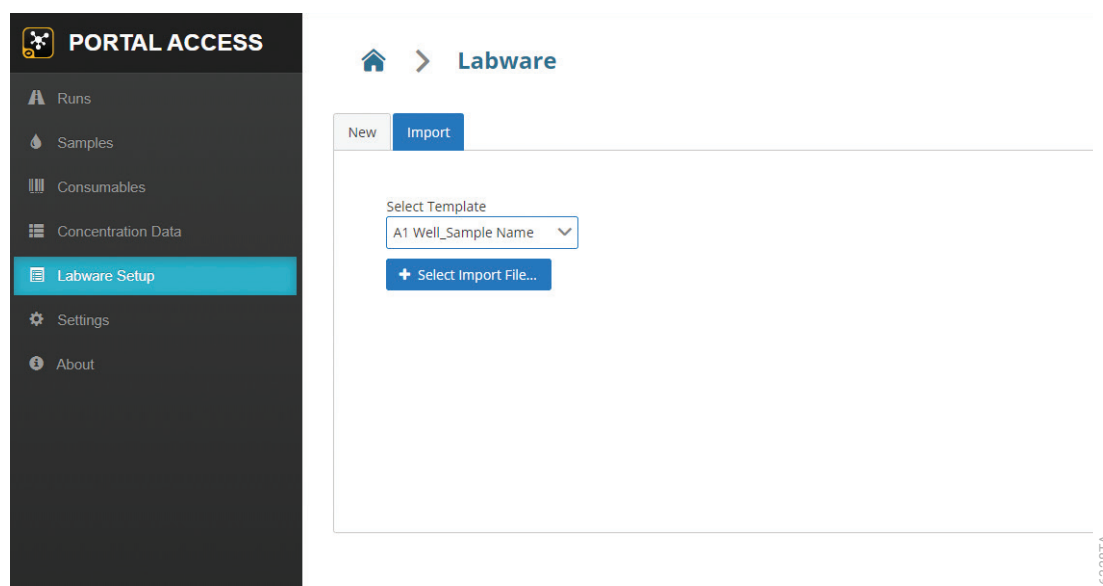

Figure 32. 'Labware' screen. Use the functions on the 'Labware' screen to import a file that will define the samples present in a plate.
Plate maps are used to map the sample identifiers associated with specific wells on a plate and the labware bar code for the plate itself. Select the **Labware Setup** button on the left side of the screen to access the 'Labware' screen (Figure 32). This screen displays two tabs for plate map creation. Use the following instructions to import a plate map from a file.
1. Select the Import tab on the 'Labware' screen (Figure 32).